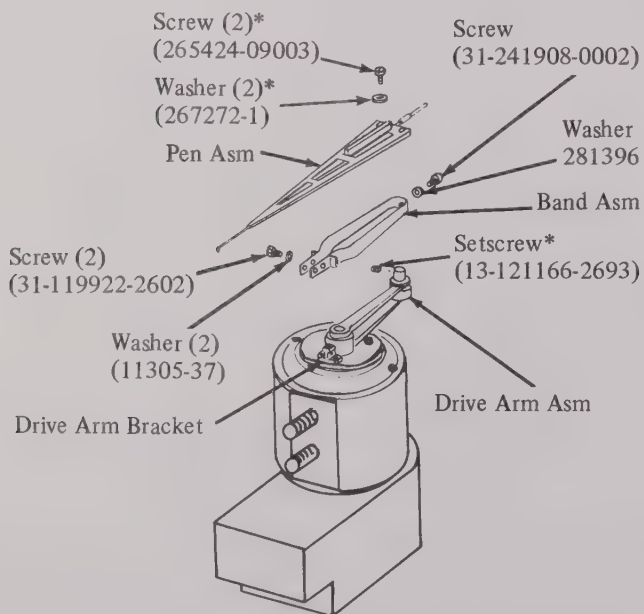

Figure 4.3. Penmotor Assembly
7. Install band tool on pen motor and thread knurled thumb screw into drive arm bracket. (Refer to Figure 4.3)